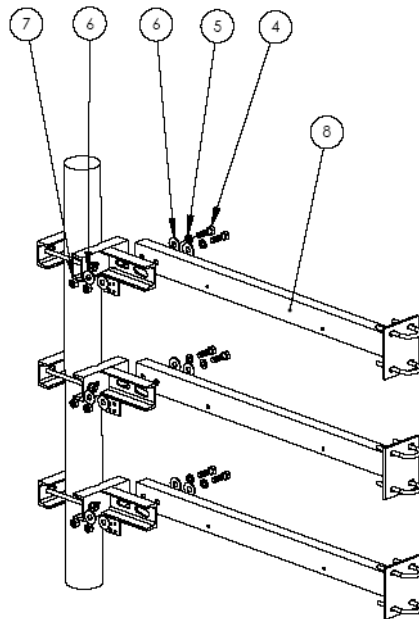

Figure C-28: Attaching Horizontal Arm to Clamp on Tower Leg
- 2 Use the bolts, washers, spring washers and nuts as listed in Table C-13 to attach the 3 horizontal arms to the clamps as shown in Figure C-28.